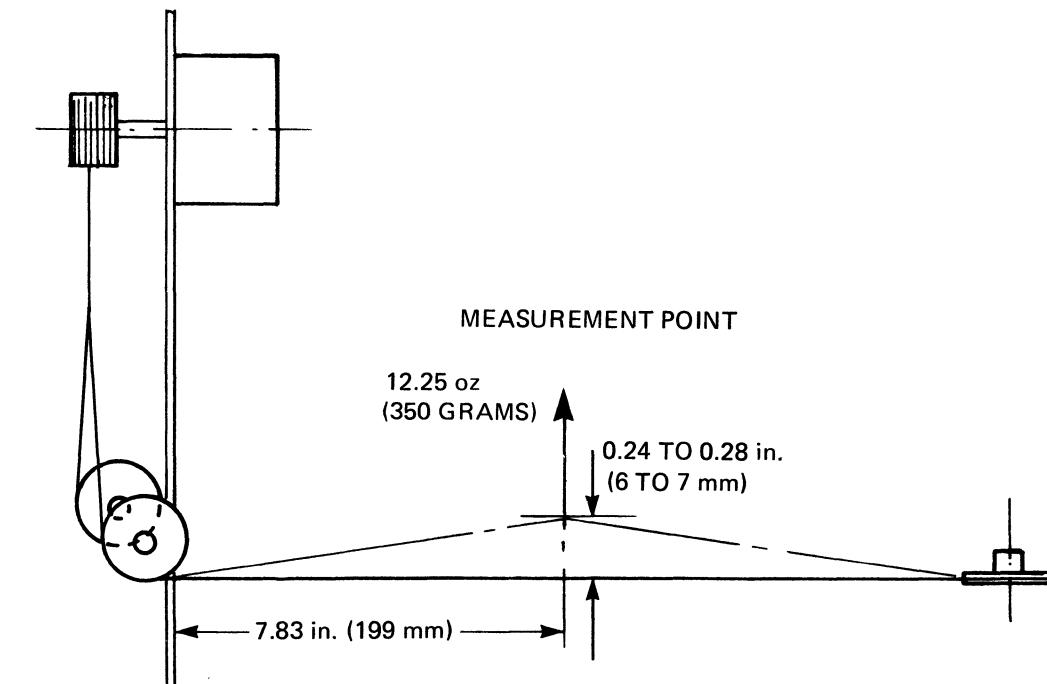

Figure 5-6 Wire Rope Tension Measurement
- Adjust the screw for a wire deflection of 0.24 to 0.28 inches (6 to 7 mm) (see Figure 5-6).